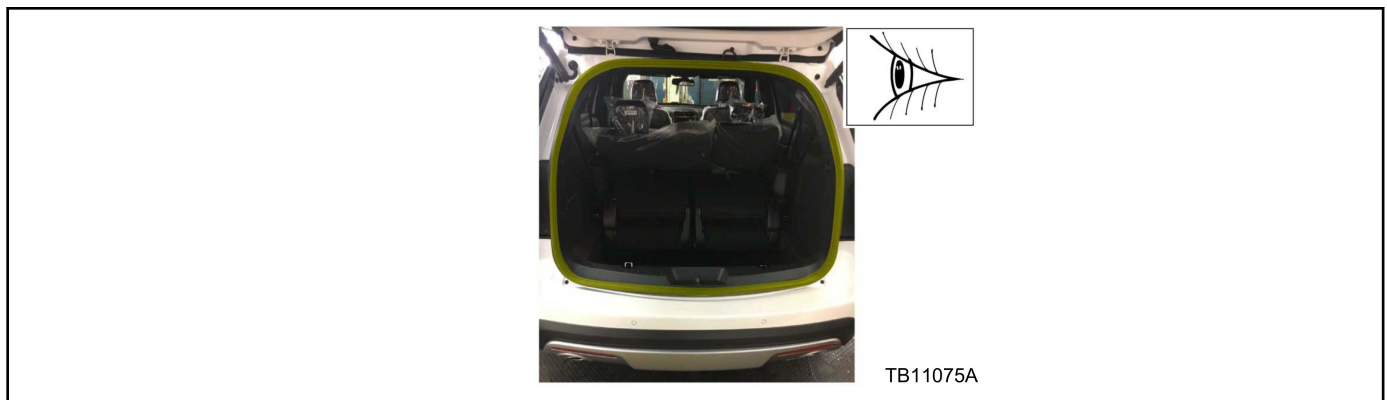

Figure 7 - Article 17-0044
- a. Check for a seal contact mark around the entire liftgate sealing surface. View the weatherstrip contact mark from different angles to make sure that it can be seen clearly. The appearance of a slight gap at the bottom center of the liftgate near the latch area is normal and corresponds with the weatherstrip joint seam. Refer to Workshop Manual (WSM), Section 501-03 to reposition the liftgate as required to obtain a proper seal. (Figure 7)